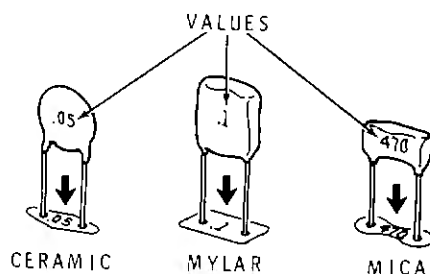

Figure 2
2. When you install ceramic, Mylar, or mica capacitors, always position each capacitor so you can read the value on the capacitor in the same direction as you can read the printing on the circuit board (see Figure 2).